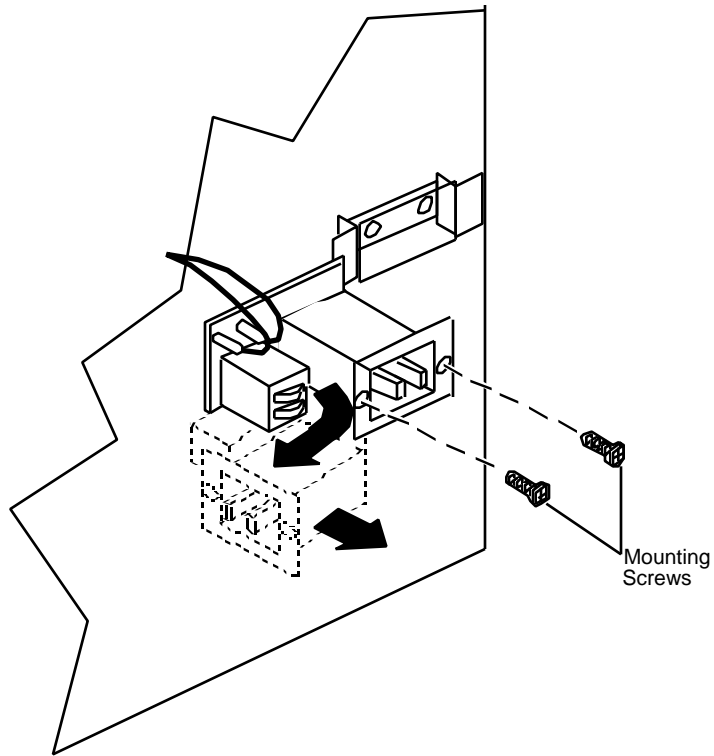

FIGURE 19
5. Remove the two mounting screws, and carefully remove the AC input/filter assembly through the mounting hole in the chassis (**Figure 19**). To remove the input/filter assembly, turn it left (clockwise) as you pull it through the mounting hole.
1. Install the new AC input/filter assembly on the chassis mounting bracket with two screws (**Figure 19**). To install the input/filter assembly, first insert the cables and filter board through the chassis mounting hole, and then turn the assembly to the right (counterclockwise) to insert the AC inlet.